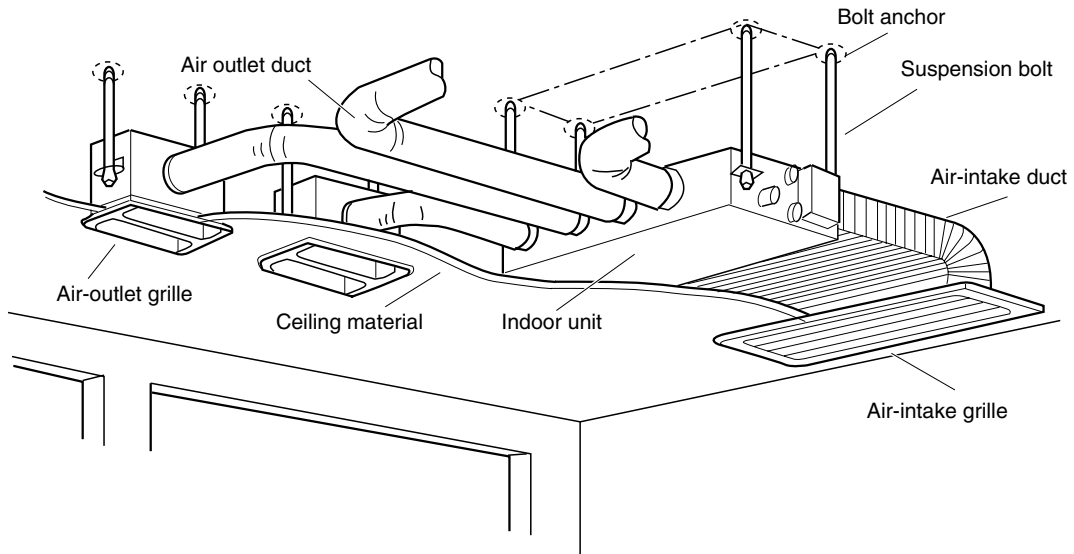

Fig. 3-140
- Fig. 3-140 shows an example of installation.